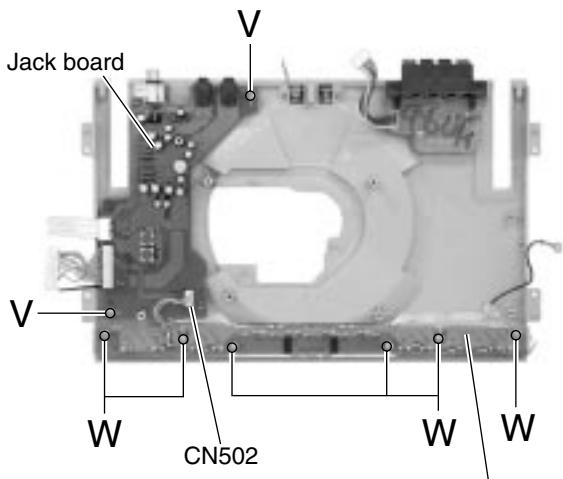

Fig.39
■ Removing the jack board (See Fig.39)
■ Removing the switch board (See Fig.39)